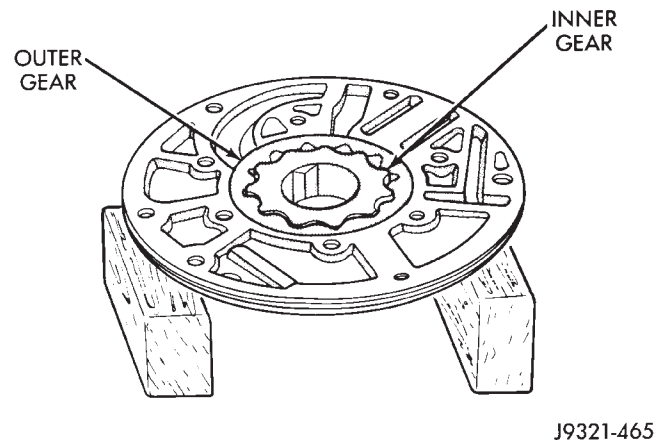

Fig. 127 Pump Inner Gear Installation
(5) Install pump inner gear (Fig. 127).